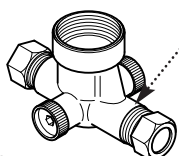

Fig. 70
11.13 Pressure Reducing Valve Cartridge (Fig. 70)